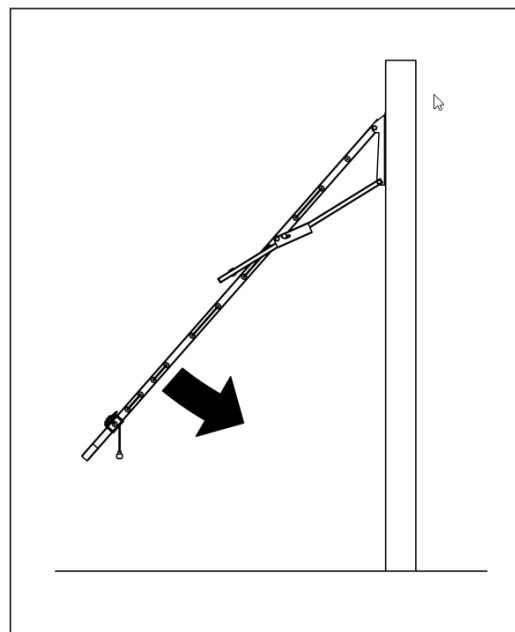

Fig 14. Lower the clothesline.
- The clothesline can now be lowered all the way. (Fig.14)